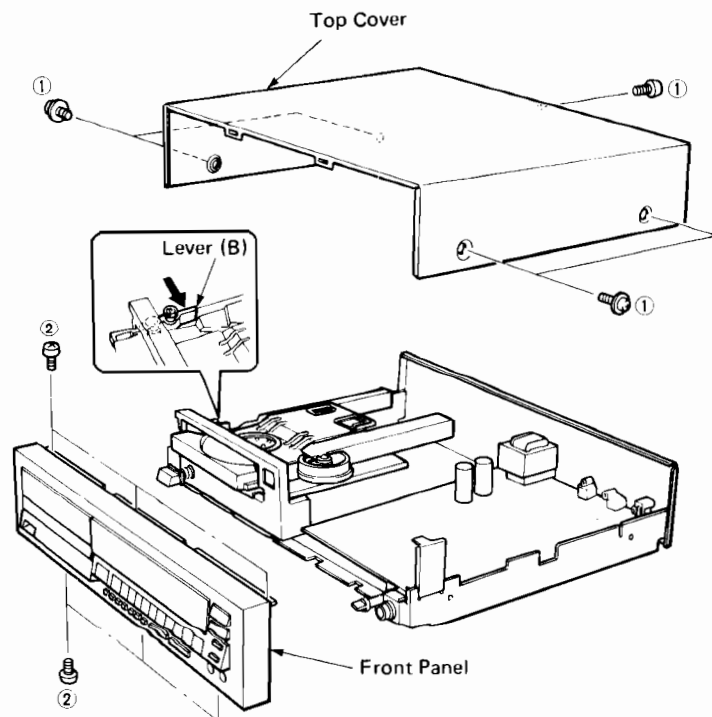

Fig. 1
- a. Remove 5 screws ( ① ) in Fig. 1, and slide the Top Cover to the back side.
- a. Remove 6 screws ( ② ) in Fig. 1.
- b. Press the Lever (B) in Fig. 1, and pull the Front Panel forward.